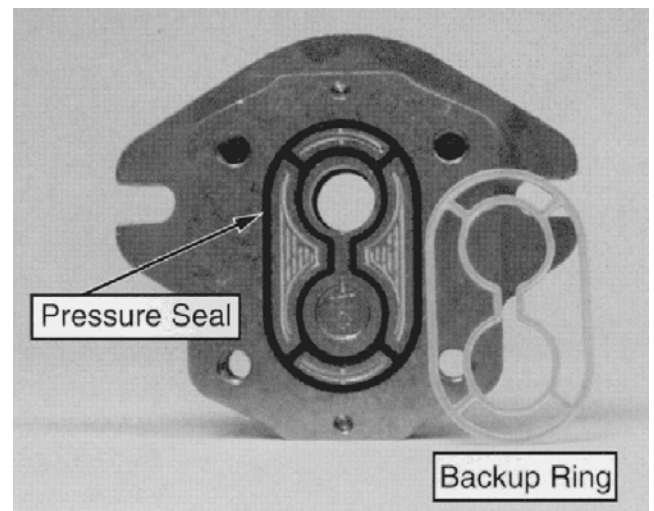

Figure 50
8. Carefully remove and discard O-rings, pressure seals, and back-up rings (Fig. 50) from motor. Do not cause any damage to the machined grooves during the removal process.